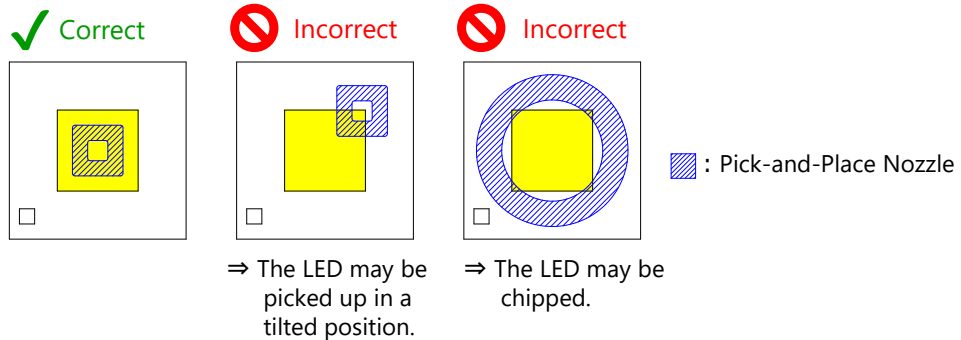

Figure 3. Examples of Correct/Incorrect LED Pick-up Positions
3. If the LED pick-up position is far from the center of the emitting area or if the size and/or shape of the pick-and-place nozzle being used is inappropriate, it may cause the LED to be picked up in a tilted position and/or chipped; see Figure 3.